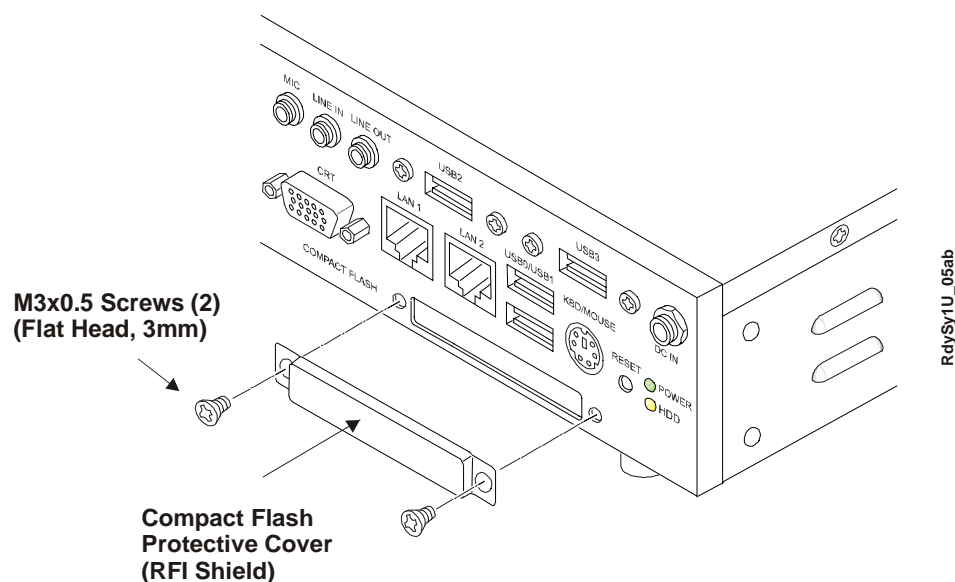

Figure 2-1. Removing Compact Flash Protective Cover
4. Use a Phillips screwdriver to remove the compact flash cover and place the two screws in a safe place for use later. See Figure 2-1.
9. If your application or environment requires protection of the compact flash card, for security or EMI protection, you can re-install the protective cover over the compact flash card. See Figure 2-1.